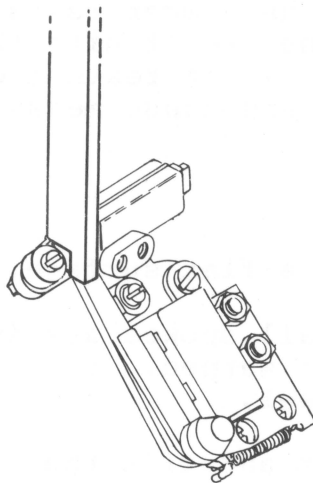

FIGURE 10
2. Try to insert the slot at the #3 end of the combination gauge between the rear stop and the armature (see Figure 10). If it fits loosely or not at all, go on to the next step.